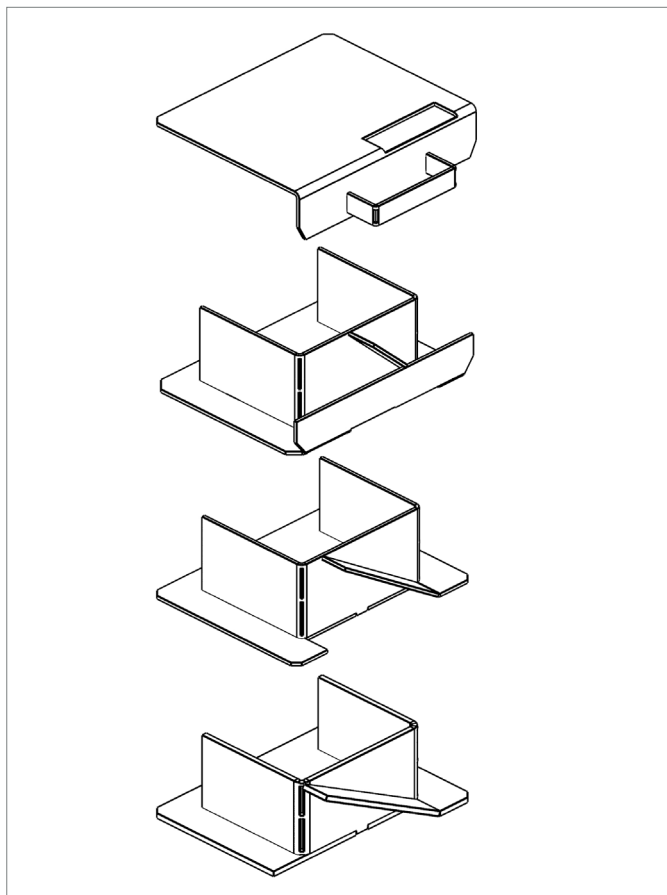

Figure 4-7: Re-fitting baffles into boiler shell
15. Refit baffles into boiler shell – ensuring they are in the correct order (check marking on each baffle) as shown in Figure 4-7.